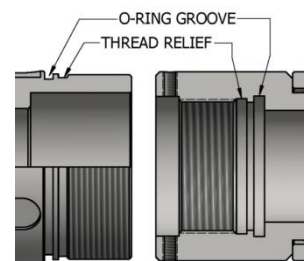

Fig. 2
**CAUTION6:** To ensure tool operates properly, install o-rings in o-ring grooves NOT thread reliefs unless stated otherwise (Fig. 2).